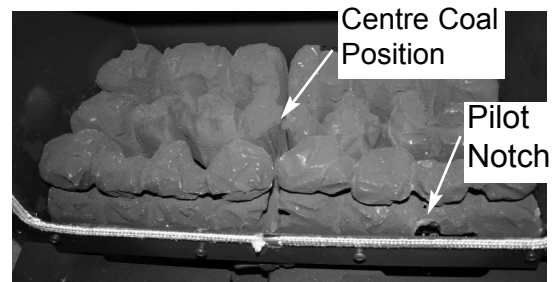

Fig. 10a
The arrangement should look like Fig 10a.
3) Now position one of the loose coals into the centre of the stove ensuring that it is placed into the centre cutout and when in position, this coal will be resting upon the four corners of the base matrices. See Fig. 10a & b.